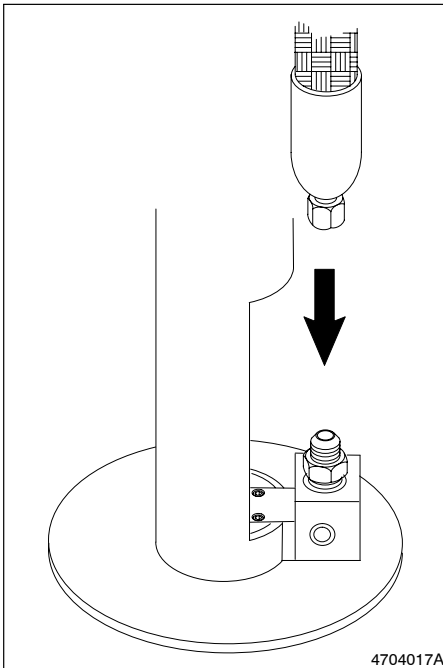

Fig. 3-8 Hose-to-Manifold Connection
2. See Figure 3-8. Coat the hose fitting threads on the pump manifold with Never Seez. Then thread the hose swivel connector onto the manifold hose fitting.